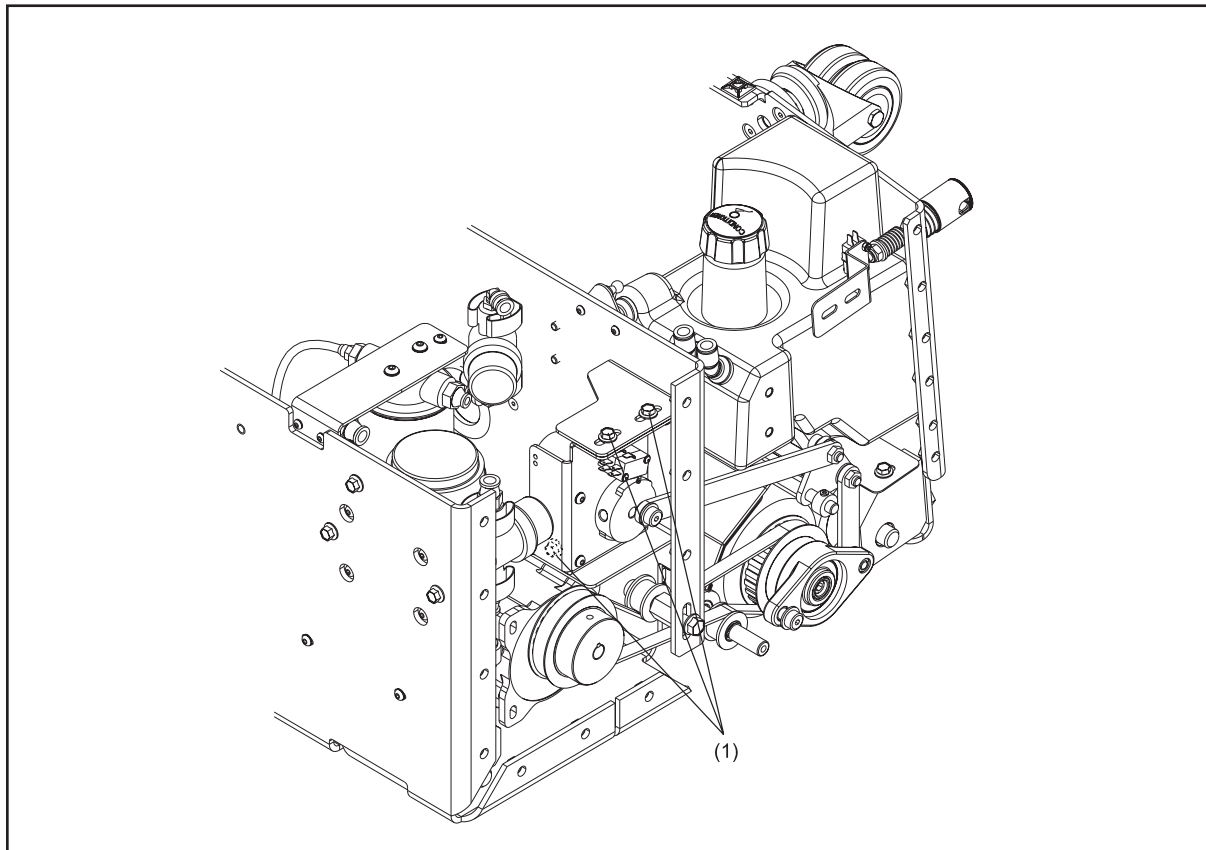

Figure 6-21. Adjusting the Buffer Brush
4. Loosen the three (3) bolts that mount the brush lifting motor assembly, to the 7-pin side of the machine, using a 3/8" socket wrench. Refer to Figure 6-21.